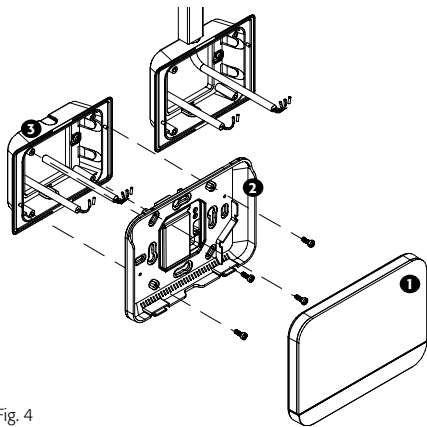

Fig. 4
2. Make the electrical connections by respecting polarity and connection as shown in Fig. 4.
3. Make the electrical connections by respecting polarity and connection as shown in Fig. 4.